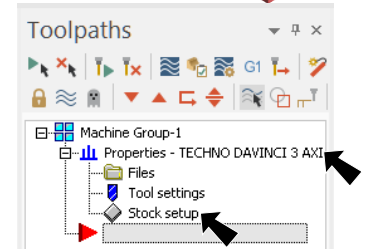

Fig. 1
Step 3. If Machine Group is **not** displayed in the Operations Manager, **Fig. 1**, click MACHINE TYPE Menu > Mill > Default.
Step 4. Expand **Properties** (click the +) in the Toolpaths Manager, **Fig. 1**.